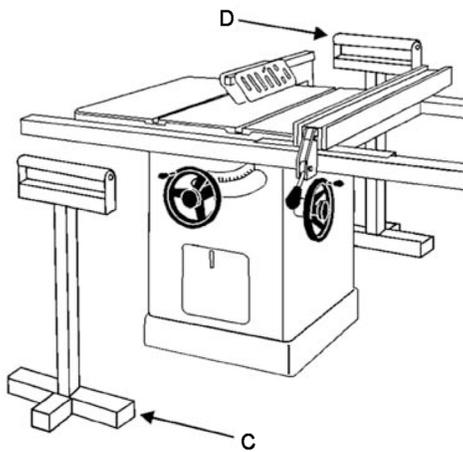

Figure 36
When ripping long boards, use a support at front of table (C, Figure 36), such as a roller stand, and a support or "tailman" at the rear (D).